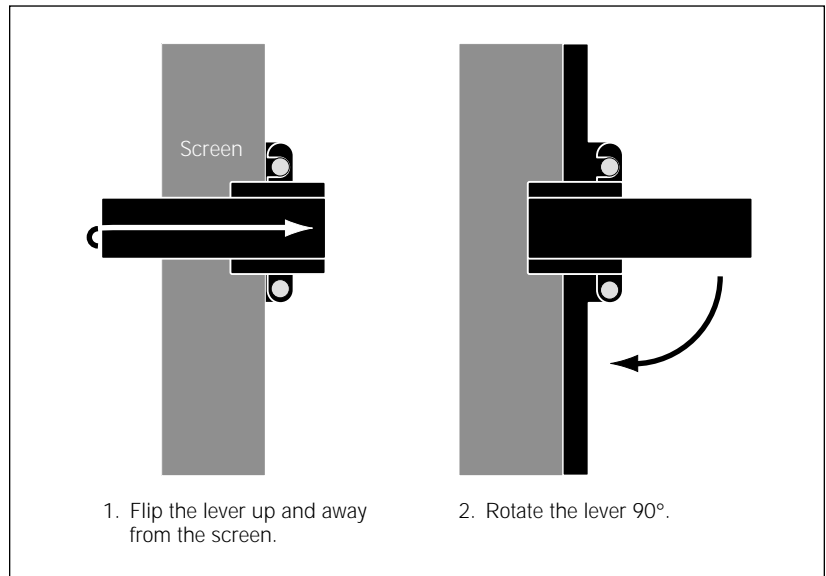

Figure 6-2. Opening the exposure cassette for mounted screens.
- **For mounted screens**—Flip the lever(s) on the cassette (figure 6-2), and then rotate the clamp(s) clockwise so that they no longer cover the screen.